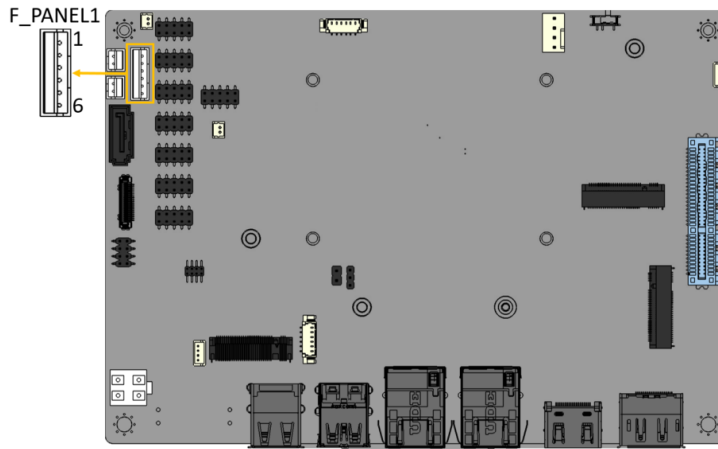

Figure 3-11: Power LED & HDD LED Connector Location
- CN Location:** See **Figure 3-11**